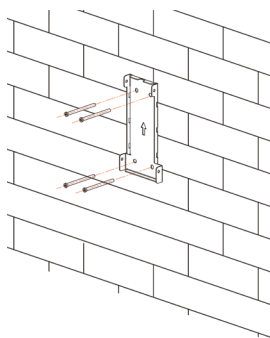

Fig. 4: Wall-mounted hanging board installation diagram
3) Install the hanging board: as shown in Fig. 4, align the hole position of the wall-mounted hanging board with the drilled hole, and then lock it with M6*40 mm stainless steel round head self-tapping screw;